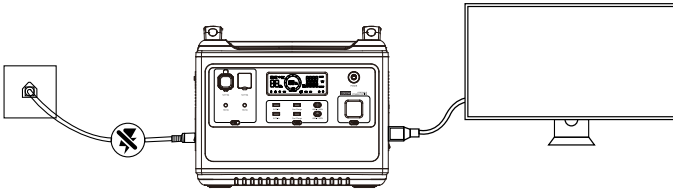

Figure 3: UPS Setup
3. Connect an appliance to a mains output socket. See [Figure 3: UPS Setup \[▶ 15\]](#).